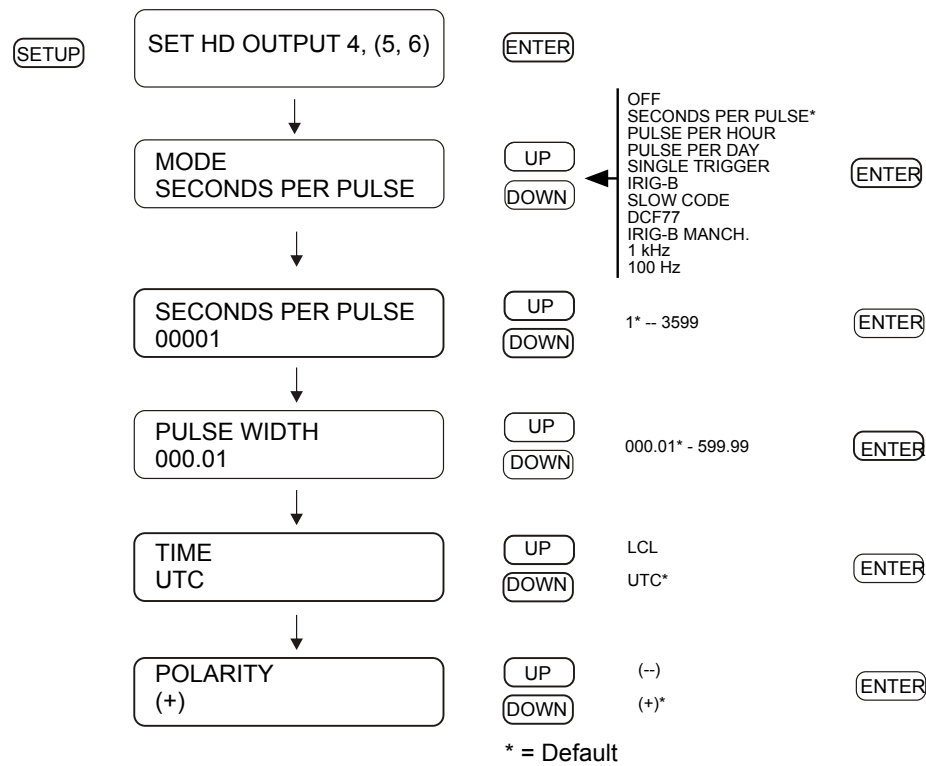

Figure 8.18: HD Outputs 4, 5, and 6 Setup
There are three separate HD outputs that can provide a number of different signals as outputs. These are as follows: (1) OFF, (2) Seconds per Pulse, (3) Pulse per Hour, (4) Pulse per Day, (5) Single Trigger, (6) IRIG-B, (7) Slow Code, (8) DCF77, (9) IRIG-B Manchester, (10) 1 kHz, and (11) 100 Hz. Each output is set up separately, but in the same manner as illustrated below in Figure 8.18.